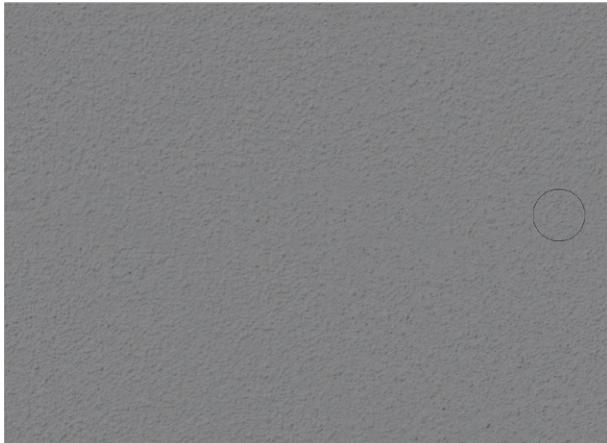

FIG B.7 Working out the remaining seam with the Clone Stamp Tool.
Step 7: Use the Clone Stamp Tool to work out the still visible seams. To use the Clone Stamp Tool, Alt (or Option)-click on a spot to define a source. Then release the Alt/Option key, and where you then click and drag will clone the part of the image you defined the source as (Figure B.7).